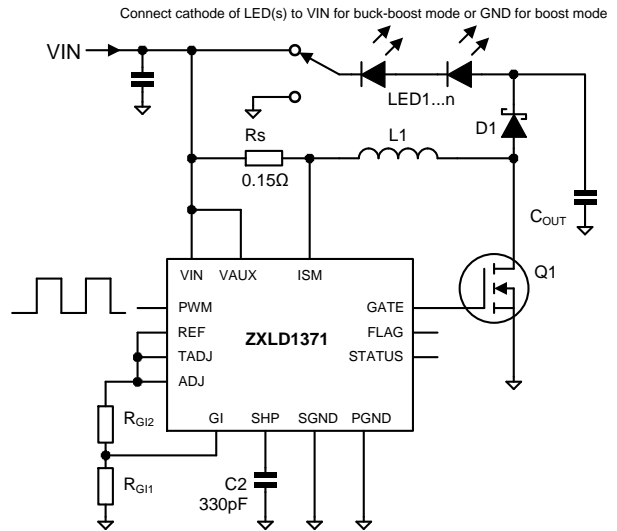

Figure 3 Boost and Buck-Boost Configuration
b) Boost and Buck-Boost Modes – the most simple boost/buck-boost circuit is shown in Figure 3
The average current in the LED, I_{LED} , is always less than I_{RS} . The feedback control loop adjusts the switch duty cycle, D, to achieve a set point at the sense resistor. This controls I_{RS} . During the interval t_{OFF} , the coil current flows through D1 and the LED load. During t_{ON} , the coil current flows through Q1, not the LEDs. Therefore the set point is modified by D using a gating function to control I_{LED} indirectly. In order to compensate internally for the effect of the gating function, a control factor, GI_ADJ is used. GI_ADJ is set by a pair of external resistors, R_{GI1} and R_{GI2} . (**Figure 3.**) This allows the sense voltage to be adjusted to an optimum level for power efficiency without significant error in the LED controlled current.